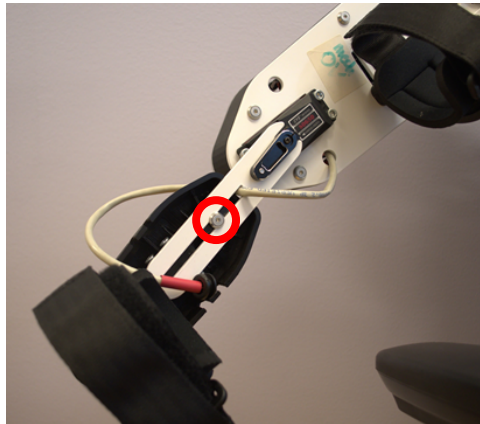

Figure 6: Bolts to adjust lower arm length for positioning of wrist cuff marked in red.
3. To adjust the position of the wrist cuff, loosen the bolt on the lower part on the arm of the exoskeleton marked in Figure 6, using the 2.5 Allen key. Adjust length and tighten the bolts.